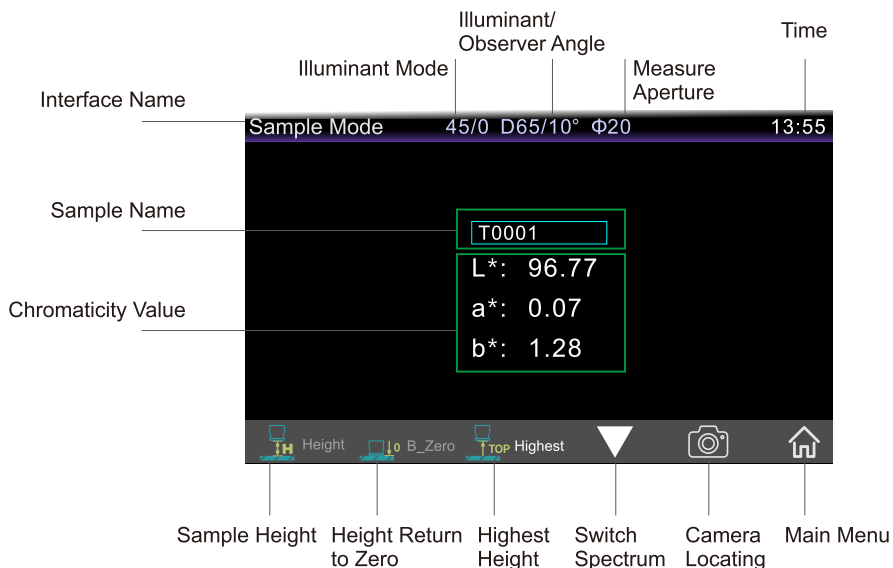
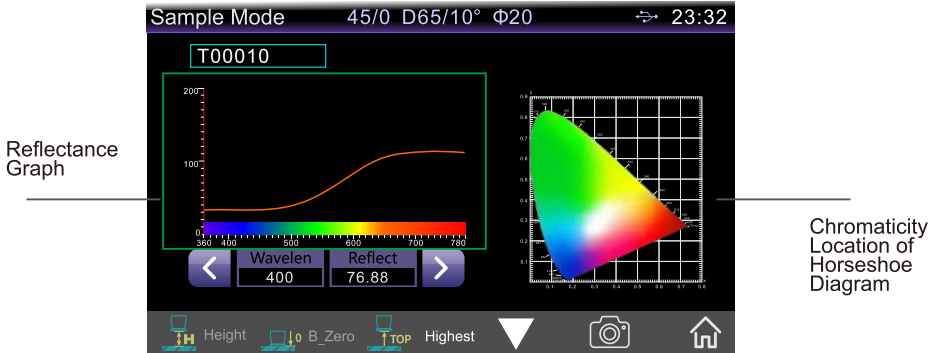

Figure 15 Sample Mode Measurement
Figure 15-1 Sample Measurement Spectrum Display Interface
In the sample mode measurement interface, after the sample to be tested has been placed properly, and the correct sample height has been entered (the sample height has been measured with a ruler such as a vernier caliper), gently press the measurement button, and the buzzer will beep. At the same time, the LED indicator flashes until it stops, which means the measurement is completed. The interface of the tested sample after the measurement is completed is shown in Figure 15 and Figure 15-1. The following is a detailed description of the sample mode measurement interface.
- 10) **Wavelength Switching Button:** Click the “◀ ▶” button as shown in Figure 15-1, and the optical wavelength and reflectance of the current test sample will be switched at a frequency of 10nm.